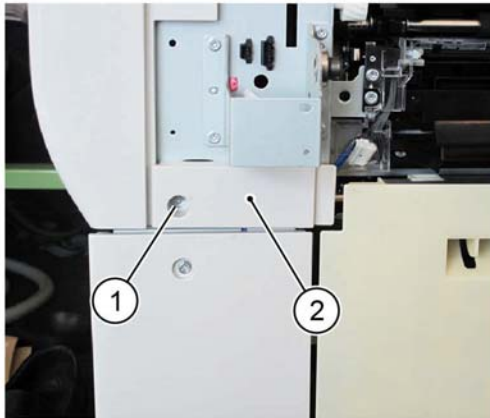

Figure 1 Bypass tray R cover removal
4. Remove the bypass tray R cover, Figure 1:
- a. Remove the screw (1).
- b. Remove the bypass tray R cover (2).